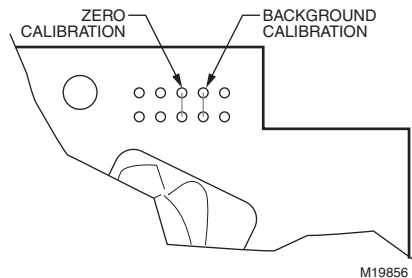

Fig. 7. C7632 calibration pads.
3. Execute calibration by shorting the proper two soldering pads (see Fig. 7).
5. Execute calibration by shorting the proper two soldering pads (see Fig. 7).